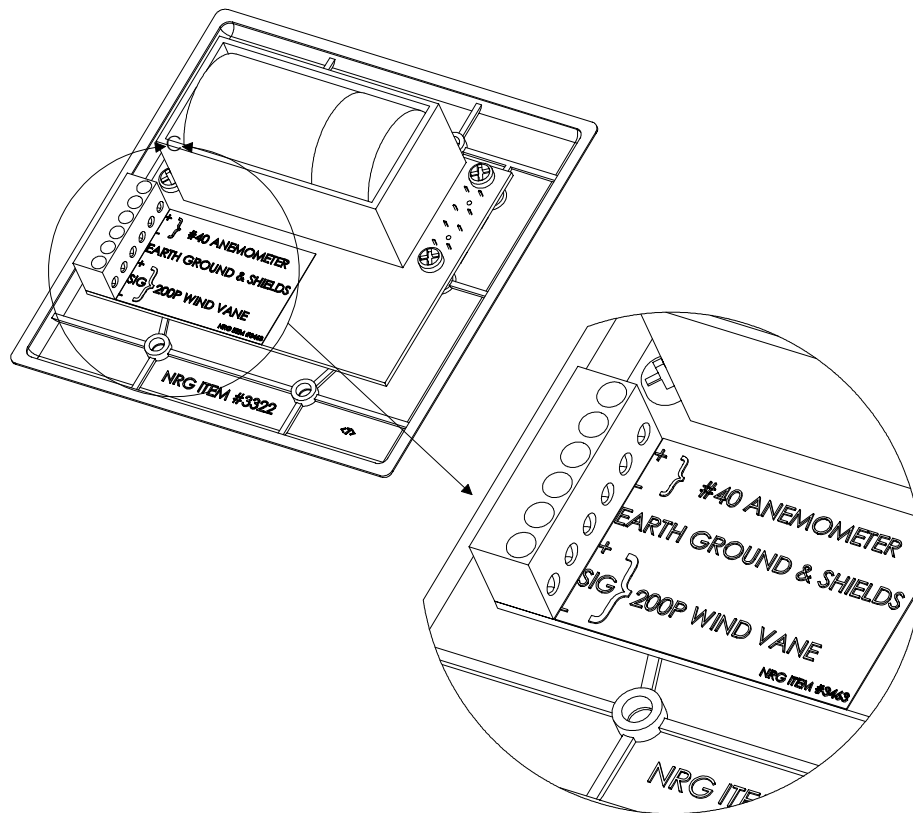

Figure 6
3. Connect the green ground wire to the WindWatcher's 'GND' terminal (see Figure 6).